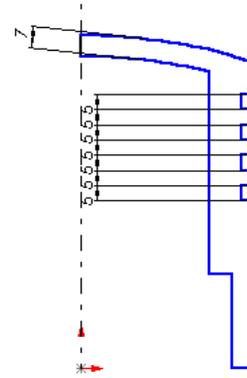

Figure 3-70 Sketch after trimming the unwanted entities
- Draw the arcs and trim the unwanted entities, refer Figure 3-70.
2. Using the left mouse button trim the unwanted entities. The sketch after trimming the unwanted entities is shown in Figure 3-70.